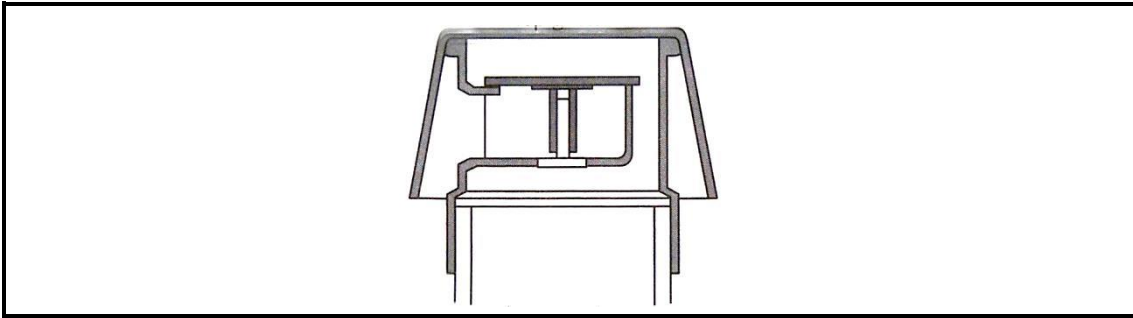

FIGURE 5.1
5.1 Answer the following questions with regard to the drainage fitment in FIGURE 5.1.